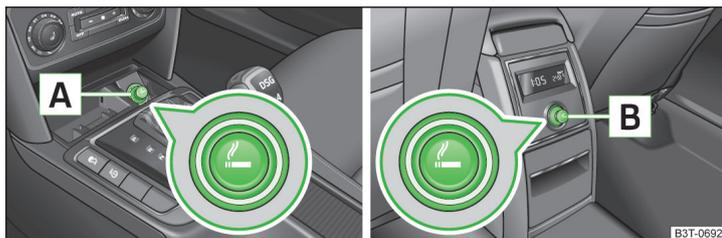
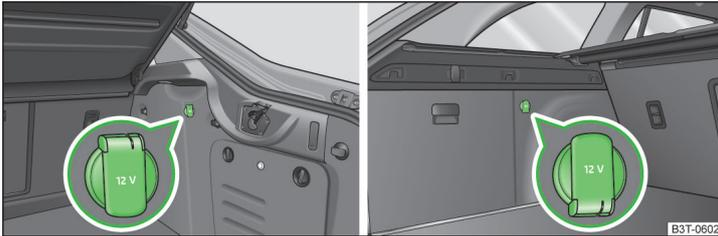

Fig. 85 Centre console: Cigarette lighter, front/rear
Fig. 87 Boot: Superb / Superb Combi socket
- Press the button of the cigarette lighter **A** or **B** » Fig. 85.
The 12-volt power socket (hereinafter referred to only as a socket) is located in the front center console **A** » Fig. 85 on page 91 in the rear center console **B** » Fig. 85 on page 91 and in the luggage compartment » Fig. 87.
- Remove the cover from power socket or cigarette lighter » Fig. 85 on page 91 or open the cover for the power socket » Fig. 87.